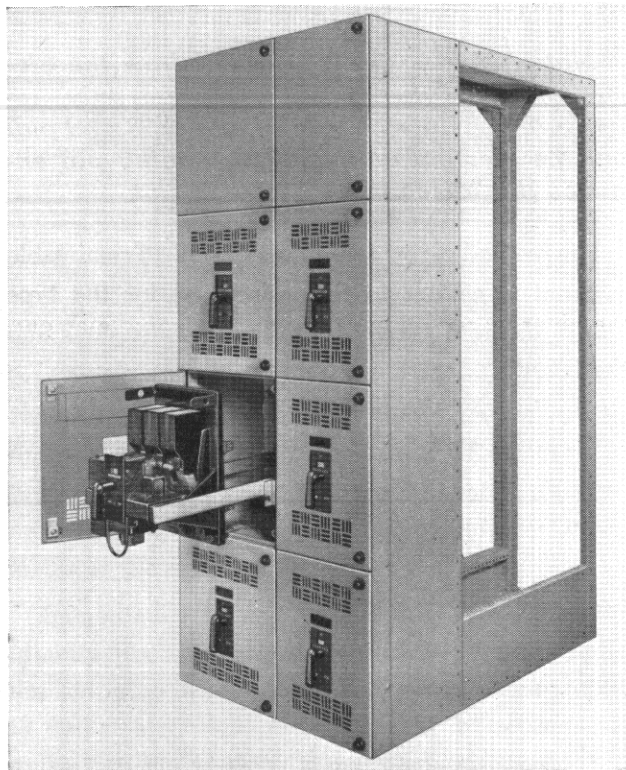

FIG. 29. Type DB-25 Element in Position on Rail Extensions Ready for Insertion in the Compartment
**Accessories.** Standard accessories furnished for type DB-25 switchgear include a set of rail extensions and a levering device. Figs. 29 and 30 illustrate the manner in which the rail extensions are used in completely withdrawing the element from the compartment and show the method of moving the element into, or out of, the "operating" position by use of the levering device.